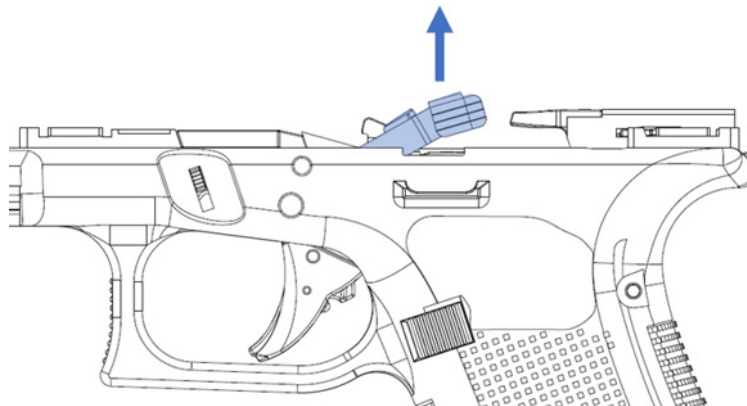

Figure 43: Slide Stop Lever extraction.
c) Remove the Slide Stop Lever from the Frame (Figure 43).